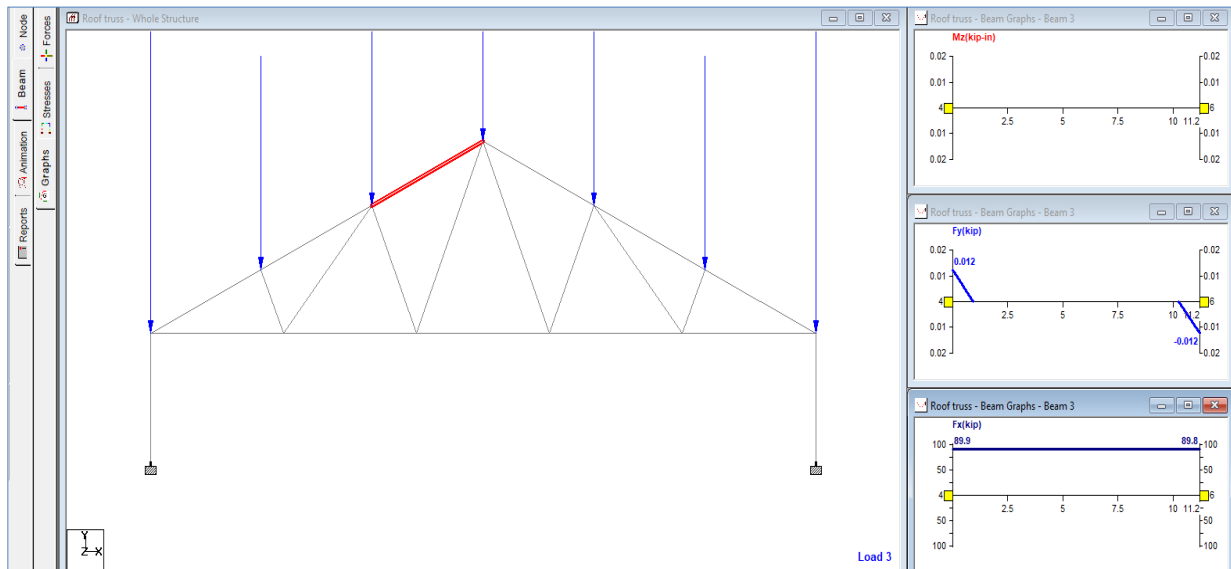

Fig: 4.16
- For Beam Forces: From left side click on Beam →Graphs the find out Axial force by clicking on required Beam from the following (Fig: 4.16)